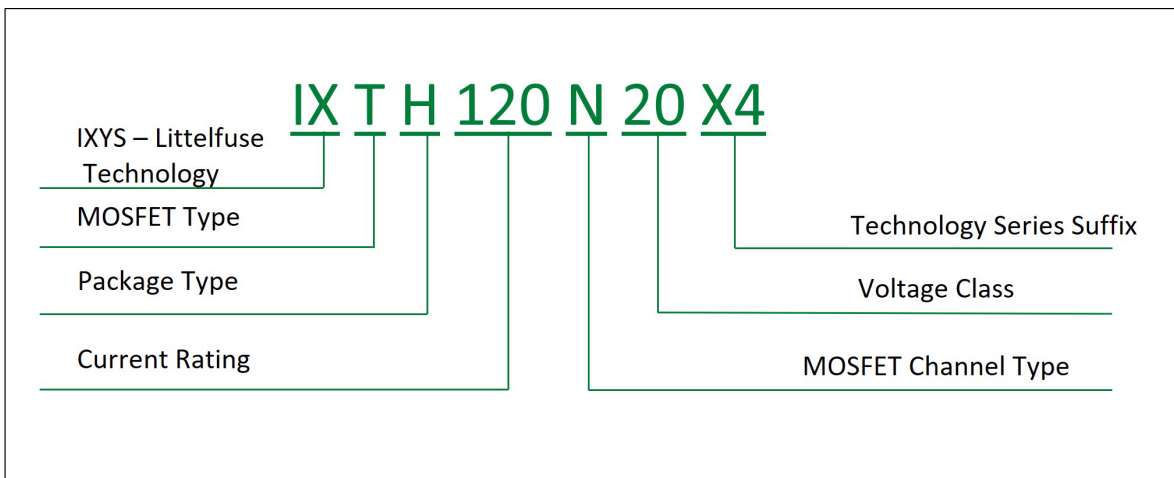

Figure 1. Part Number Designation
- Part Number** indicates the manufacturer, MOSFET type, package type, current rating, channel type, voltage class, technology series and a suffix for some special packages that gives extra information such as high voltage package, over molded package, and w/ 4 leads. Designation of MOSFET part number is drafted in **Figure 1**. The detailed information about this can be found as part number nomenclature - discrete Si MOSFET on Littelfuse website.